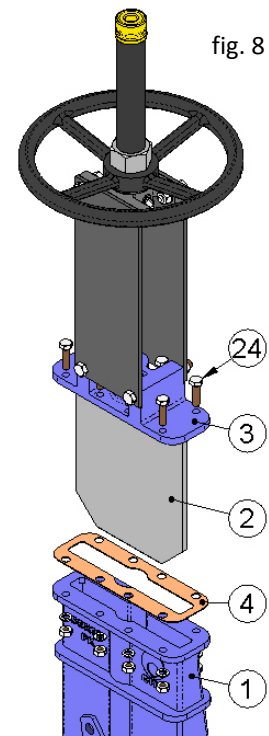

fig. 8
**Note:** The numbers in brackets refer to fig. 8.